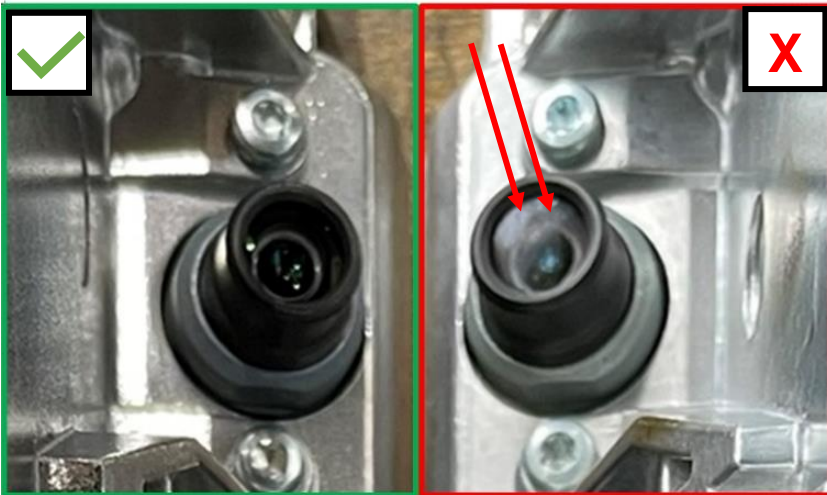

Figure 4
5. Check lenses of multifunction camera (**Figure 4**) for dirt build-up/soiling.